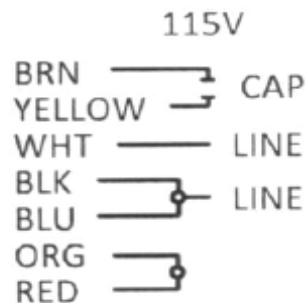

Figure 72. Air Compressor Wiring Diagram
- d. Connect electrical wiring to replacement compressor in accordance with Figure 72—ensure that anti-short bushings (2) are used to protect wiring:
- (1) Remove plastic capacitor mount and cut black, green, orange, and red wires so that about 6 inches remains on each and strip wire ends.
- (2) Connect red and orange wires together using crimp nut (6).
- (3) Connect black wire, blue wire, and 48-inch-long black wire (3) together using crimp nut (6).
- (4) If white and green wire leads aren't long enough, cut and crimp them together with longer wires (4 and 5).
- (5) Cut BX cable (8) to proper length.
- (6) Install BX connector (7, either angled or straight as needed) to capacitor mount, pull black, white, and green wires through connector, and connect BX cable (8).